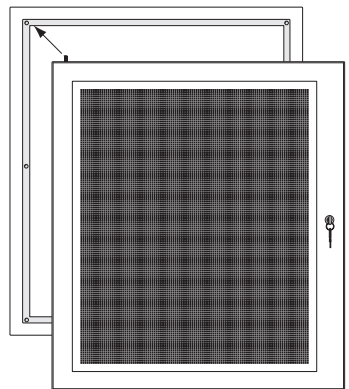

Fig. 2
Step 2: Align top left Hinge Pin and insert door into frame (Fig. 2).